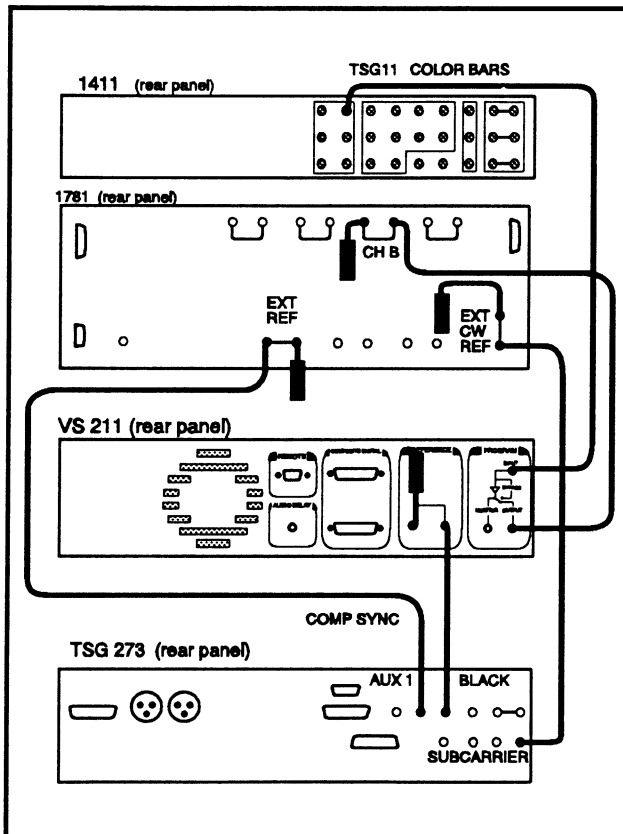

Fig. 4-5. Setup to check timing jitter.
- a. Connect the test equipment as shown in Fig. 4-5.